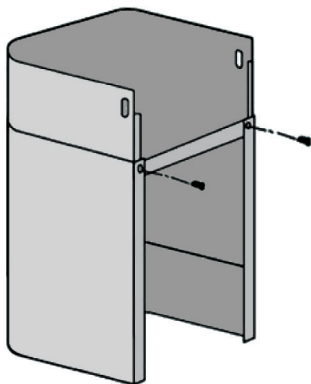

Figure 4
- Use 2 screws to fix the two chimneys together with the lower chimney bracket, make sure upper chimney is moving freely (see Figure 4).